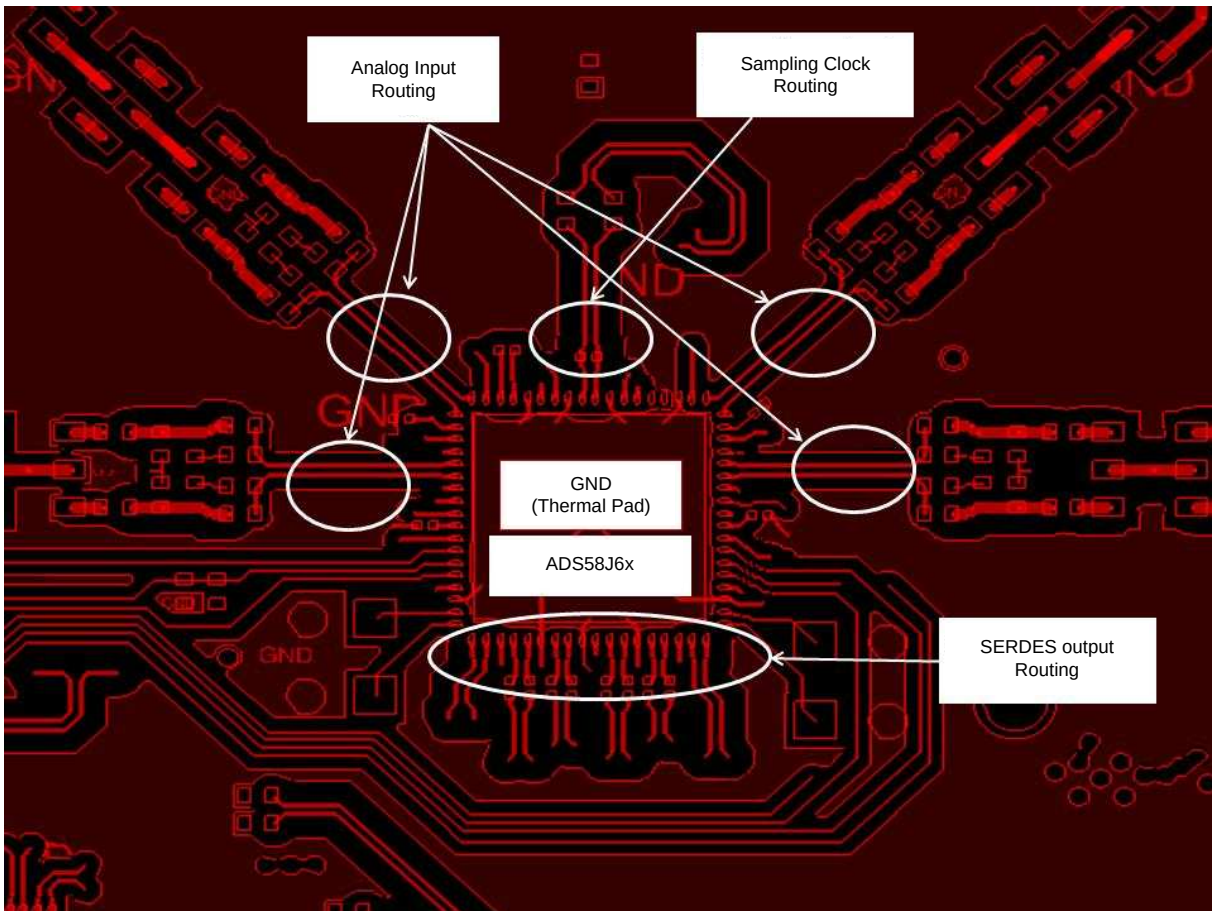

图 138. ADS58J64EVM Layout
The device evaluation module (EVM) layout can be used as a reference layout to obtain the best performance. A layout diagram of the EVM top layer is provided in 图 138. A complete layout of the EVM is available at the ADS58J64 EVM folder. Some important points to remember during board layout are:
- Analog inputs are located on opposite sides of the device pinout to ensure minimum crosstalk on the package level. To minimize crosstalk onboard, the analog inputs must exit the pinout in opposite directions, as shown in the reference layout of 图 138 as much as possible.
- In the device pinout, the sampling clock is located on a side perpendicular to the analog inputs in order to minimize coupling between them. This configuration is also maintained on the reference layout of 图 138 as much as possible.